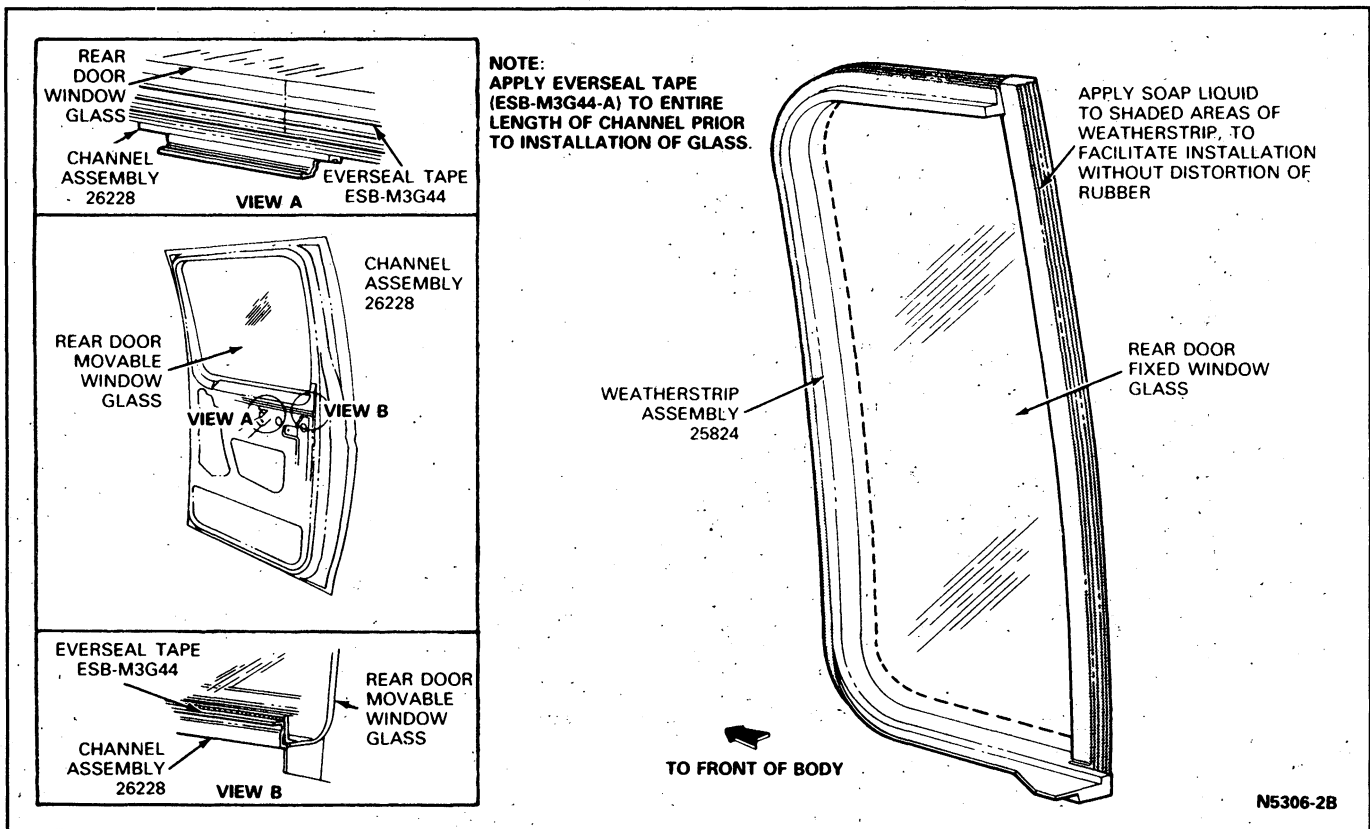

FIG. 3 Crew Cab Rear Door Window Glass
1. Install weatherstrip to fixed window (Fig. 3).